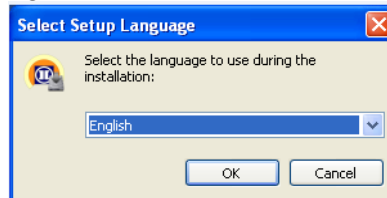

Fig 2-1 Select the language for an installer
3. As shown in Fig 2.1 click "ok" then it displays the screen of the installation location of Area Designer. If there is no particular specification then, click "next".